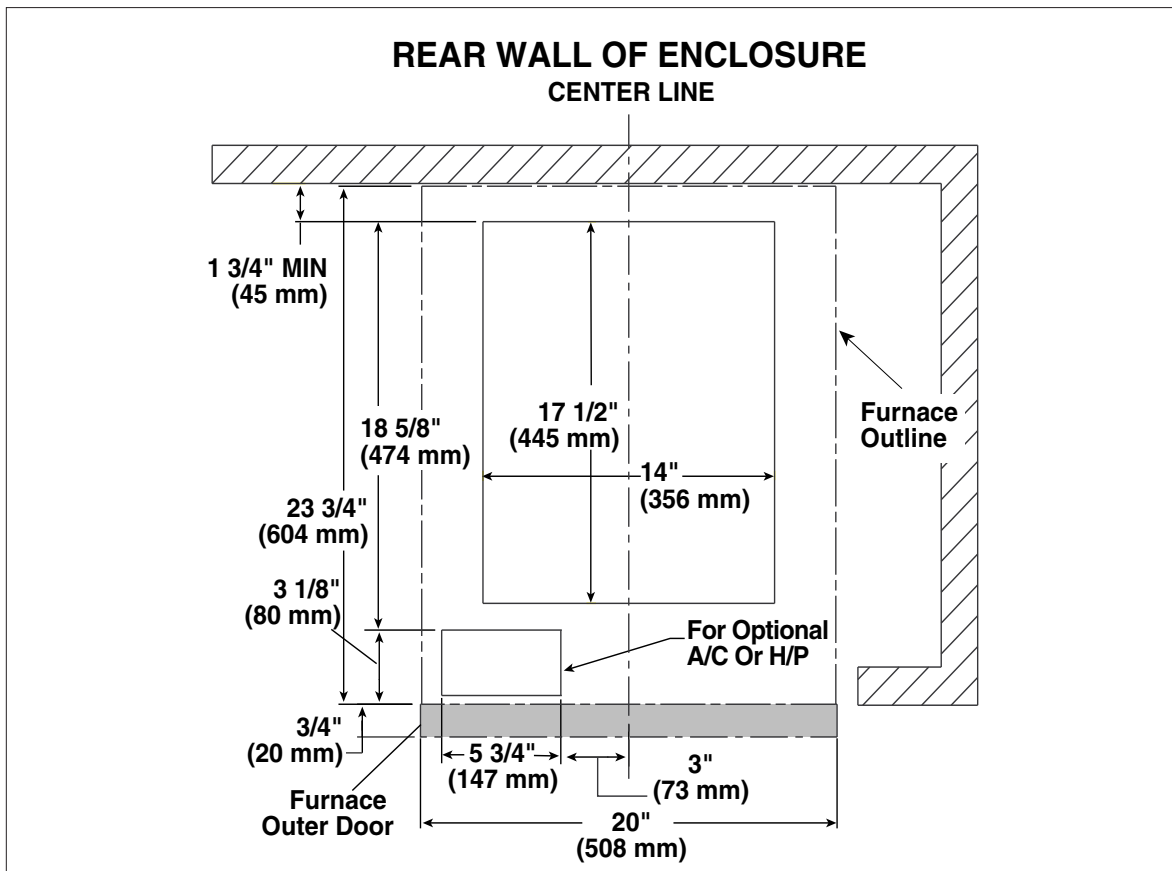

Figure 19. Upflow Floor Cutout Locations (nominal dimensions)
- a. Mark floor opening(s) as shown in Figure 19. Provide minimum clearances at rear and left side walls of closet for installation of furnace and wiring.